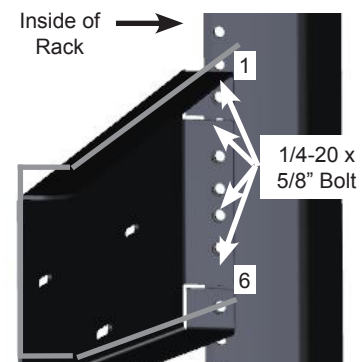

FIGURE 1: 2-POST FIXED BRACKET RACK MOUNTING
1. Bolt the 2-Post Fixed Bracket assembly to the 2-Post Rack using four (4) 1/4"-20 x 5/8" bolts for each bracket. (Figure 1)
2. Hold one of the 2-Post Fixed Mounting Brackets, P/N 92756, against the 2-Post rack rail at the level of the lowest module to be installed, with the bracket folds to the inside of the 2-Post rack (Figure 1).